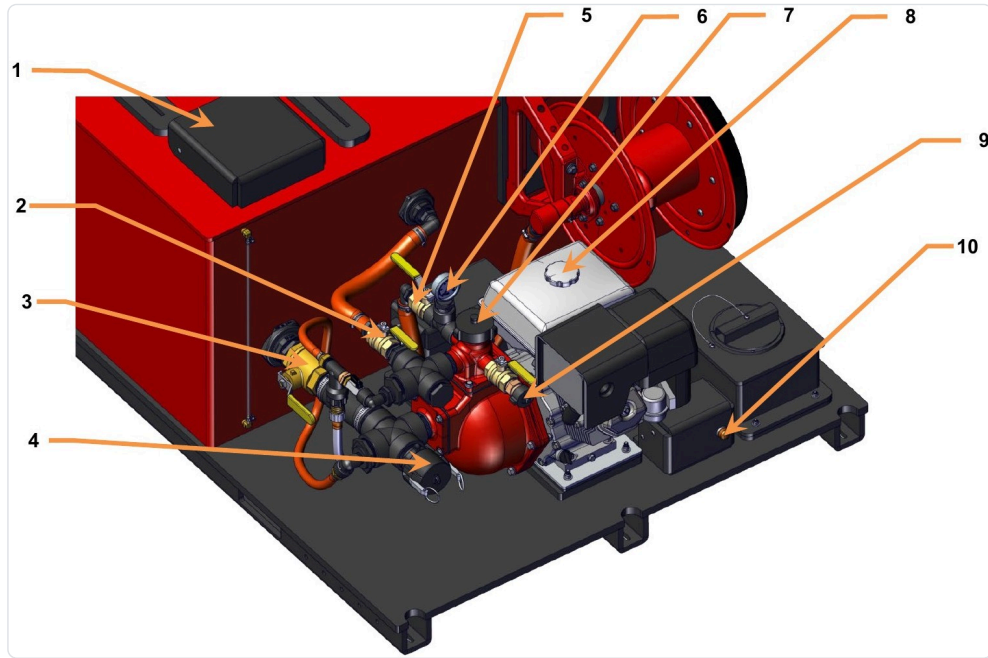

Figure 1. Pump area
- ☐ Fuel level adequate (Figure 1, Item 8)
Valve numbers refer to Figure 1. The full procedures follow in Sections 8 – 10.
The Versax 6 and Versax 9 are self-priming pumps, so they do not need to be primed before every use. If the pump has not run for more than 12 hours, you may need to add water to the primer port (Figure 1, Item 7) to ensure proper suction. Pour water into the primer port until it is full, secure the cap and start the engine.
1. Open the fill well and fill the tank (Figure 1, Item 1).
1. Make sure the engine has enough fuel in the gas tank (Figure 1, Item 8).